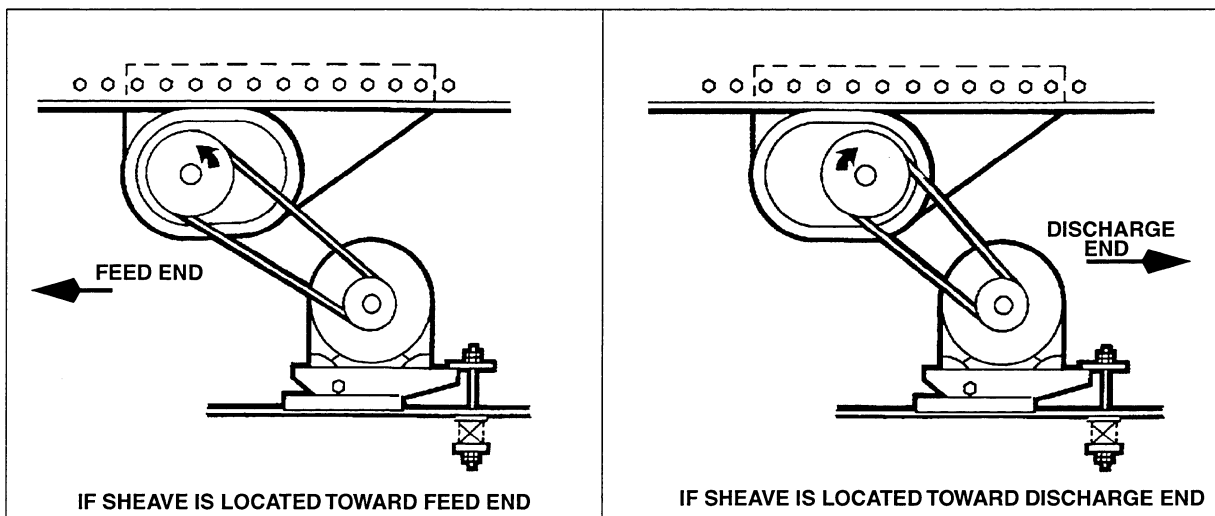

Figure 7-6. Sheave Rotation
11. Install electrical wiring and conduit to the motor, and check for correct rotational direction. Refer to Figure 7-6.